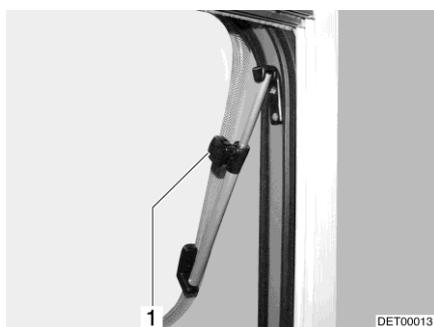

Fig. 115 Skylight with rotary hinges, open
- Open the skylight until the required position has been reached and use knurled knob (Fig. 115,1) to secure in position.
- Turn knurled knob (Fig. 115,1) until the latch is released.